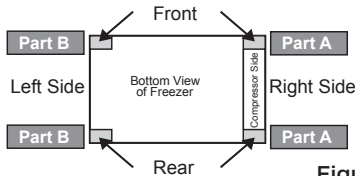

Figure 1
4. Remove casters and screws from the caster kit. The Part A casters are installed on the right front and rear compressor side of the unit. The Part B casters are installed on the left front and rear of the unit (with brake lever facing outside). Align the caster holes with the corresponding screw holes in the mounting locations. See Figure 1.